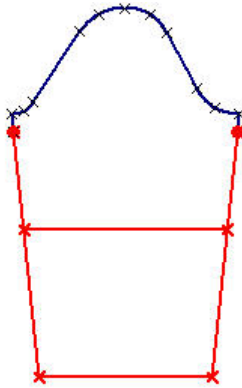

Figure 9. Select and delete objects
12. Select and delete the objects shown in Figure 9 including the standard points placed.